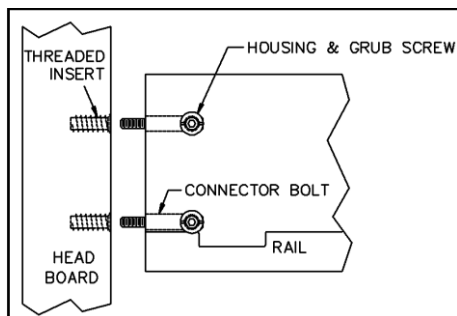

Figure 2: Bedrail Attachment
**Begin here for Twin Bed Assembly. Step 2-4, Figure 2, Steps 9 & 11.**